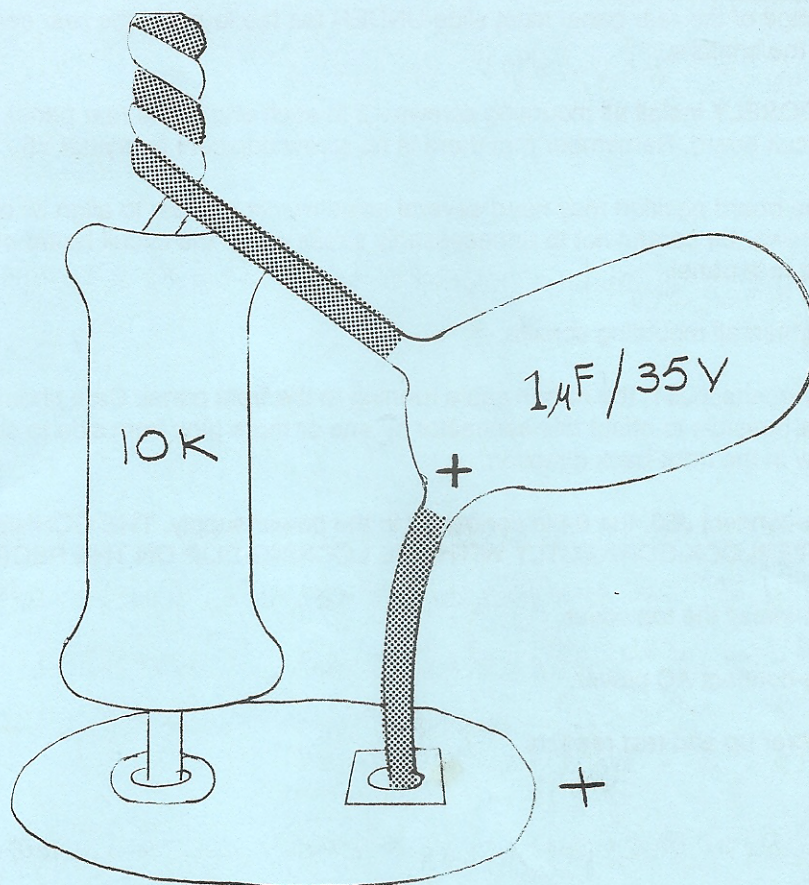

FIG 1
10. Prepare two resistor/capacitor networks. Each is constructed by twisting together one lead of a 10K resistor and the NEGATIVE lead of a 1μF/35volt capacitor. The twisted leads should be soldered and the excess clipped off. (See Fig 1)
11. Install and solder one each of these networks in capacitor positions C54 and C24 as shown in Fig 1.
SEE FIG 1.